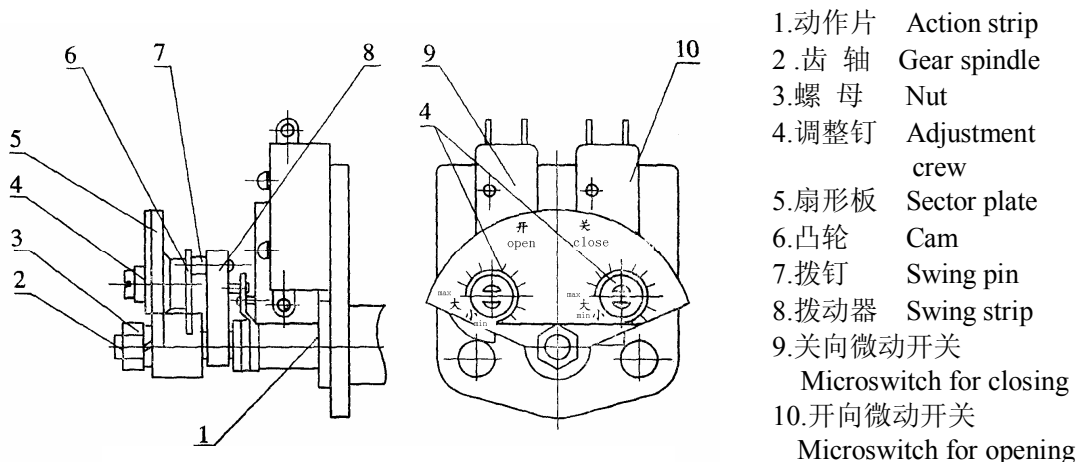
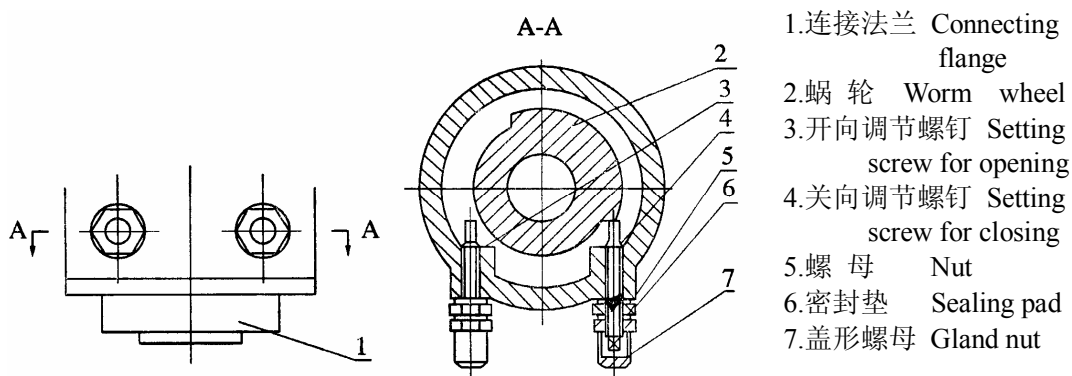
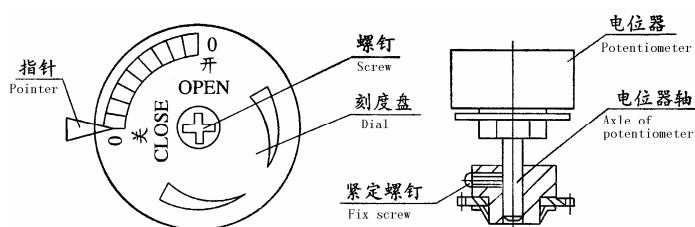

图 6 转矩控制机构 Fig.6 torque mechanism
图 7 机械限位机构 Fig.7 mechanical stopping
图 8 开度机构 Fig.8 position indicator
转矩控制机构见图 6，本装置在出厂前，启闭方向的转矩值均整定在额定控制点上，一般不需要再作调整，若现场需重新调整，方法如下：
2. 关闭位置采用机械限位时, 转矩机构的调整, 见图 7
Torque limit is shown in Fig.6. Torque limit of this device has been preset according to rated torque value before leaving factory and does not need resetting usually. If field resetting is required, it will be carried out as following:
2. Adjustment for closing by mechanical stopping (Fig. 7)
1. 开度刻度盘调整, 见图 8。当行程控制机构调整完成后, 把阀门关闭到“全关”位目视检查刻度盘上的“0 关”刻度是否与指针对正, 如没有对正, 松开刻度盘上的螺钉, 转
Adjustment of dial, see Fig.8
9. 通常输出轴顺时针转动为关阀，逆时针为开阀（从上朝下看），若要求相反的话，图 6 中扇形板的“开”、“关”位置；图 7 中“开”、“关”调节螺钉；图 8 中刻度盘的“开”、“关”位置这些地方与本说明书不同，以实物为准，说明书不再更改。
counter-clockwise rotation of the shaft makes valve open(with view downward). If reverse rotation is needed, “open” and “close” positions of sector plate in Fig.6; adjust screws for “open” and “close” in Fig.7; “open” and “close” positions of dial in Fig.8 will not be consistent with this manual. The indicating marks are shown on the specific product and this manual will not be modified further.